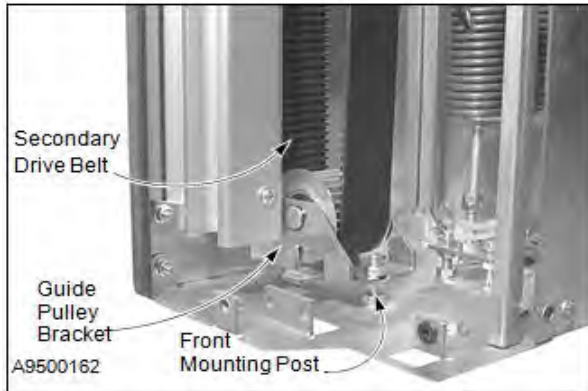

Figure 74
8. Release the tension from each secondary drive belt by removing the guide pulley bracket from its front and rear mounting posts. The pulley bracket is held in place by a nut threaded onto each post. (See Figure 74.)